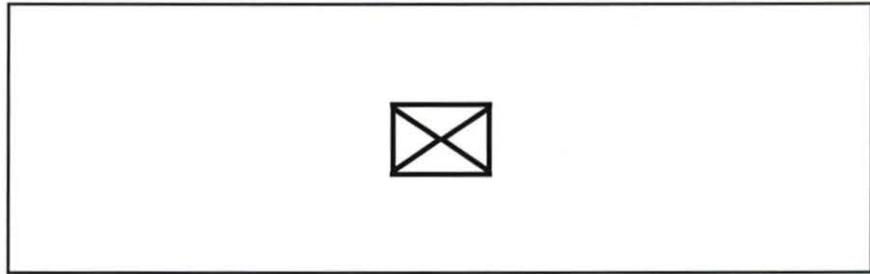

Figure 27. Valve Symbol
5. Determine the type of valve or actuator symbol depicted in figure 27.